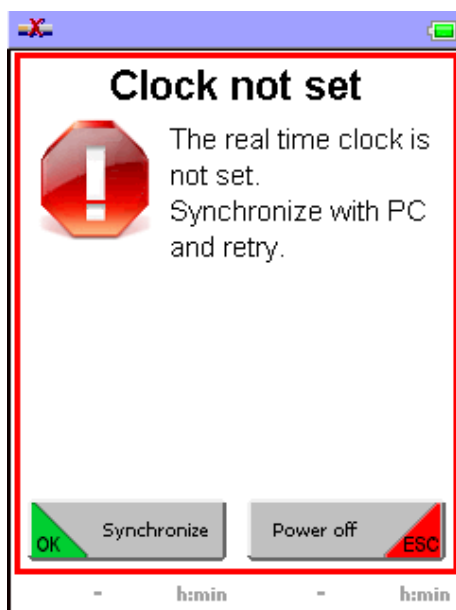

Fig. 41: Message
2. If the control unit (BE) has never been synchronised with a PC, the message Fig. 41 is displayed. Synchronise the control unit with a PC (↪ Chapter 12.11 'Data exchange between PC and control unit' on page 99) and restart the control unit (BE) (↪ 'Starting' on page 84).
3. If the message Fig. 41 is displayed in relation to an already synchronised control unit, the internal clock battery is faulty. Have the battery exchanged by PLARAD® service.